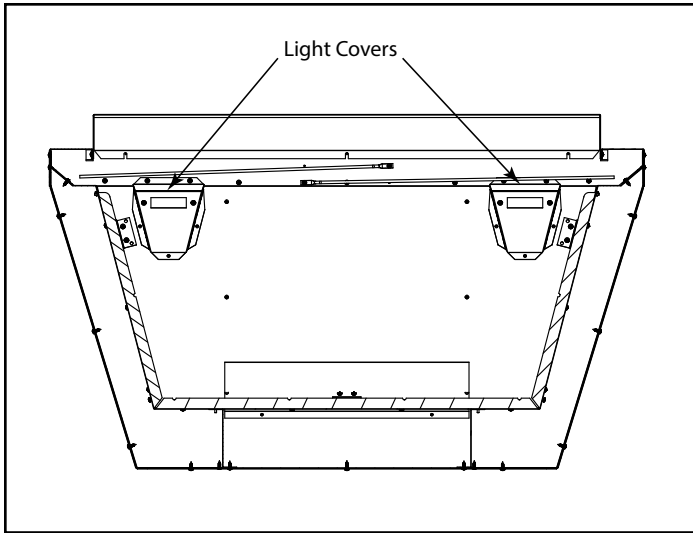
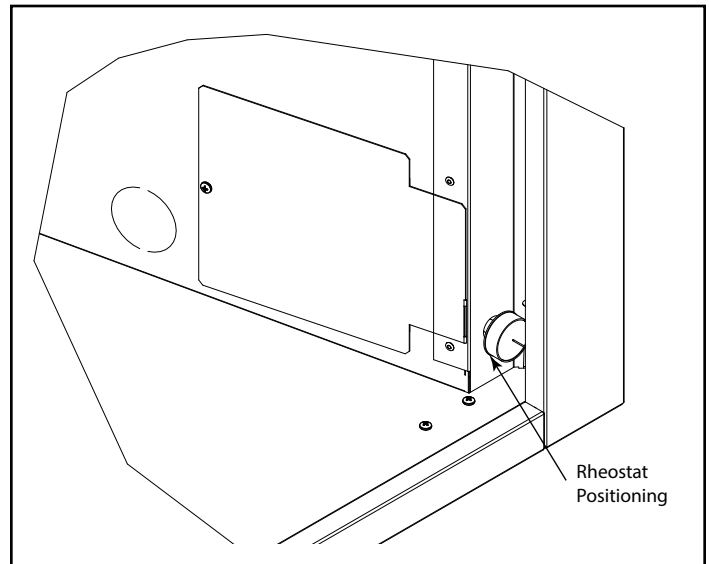

Figure 6 - Light Covers
Figure 7 - Rheostat Positioning
11. Remove two (2) screws in front of each of the bulb sockets and install the light cover with the two (2) removed screws. Use three (3) additional screws from hardware pack to attach the light cover to the firebox top (1 each side, 1 at back). Repeat steps for opposite side. See Figure 6.
13. Reattach the rear access panel with six (6) screws previously removed.
15. Reattach the side access panel with the dimmer switch by adjusting the rheostat to align with the hole in the venting support so that the stem of the rheostat sticks through. Attach with one screw previously removed. See Figure 7.